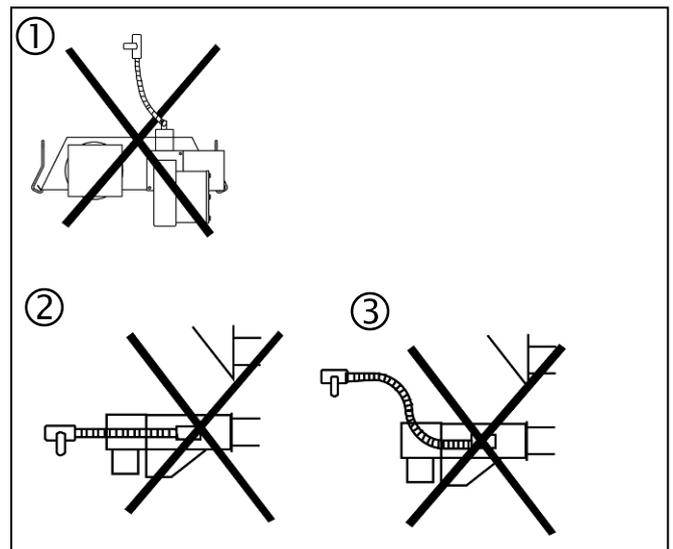

Fig. 33: Incorrect mounting of flexible hoses
- ⇒ Incorrect mounting of flexible hoses shown in Fig 33 [sketches ① to ③].